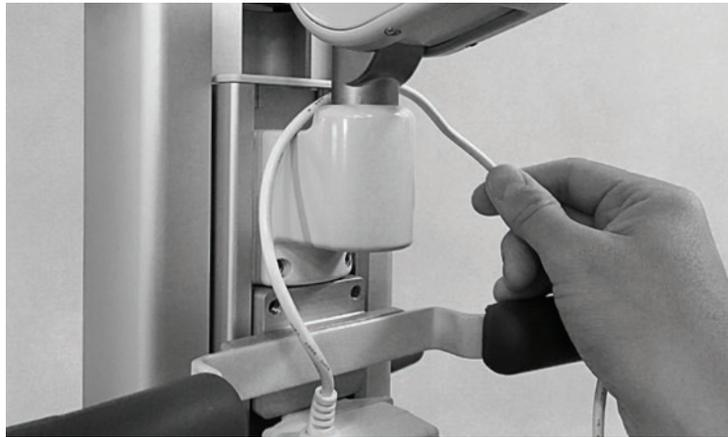

Figure 22: Wrapping the Power Cord
1. Wrap the Power Cord around the Variable Height Arm. See Figure 22.